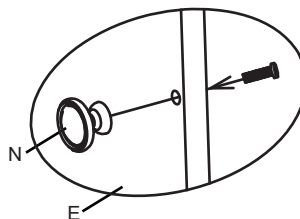

Figure 8
8. Attach the door handle (N) to the door panel (E) with the bolt (EE) using a Phillips screwdriver (NOT included), (see Figure 8).